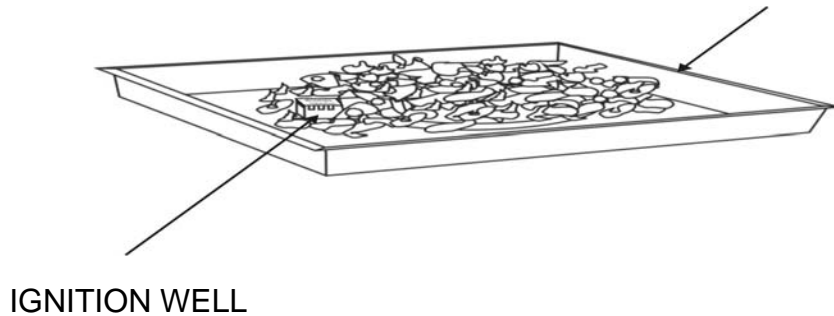

Figure 5
3. Pour the lava rocks into the burner pan completely covering the burner. See Figure 5.